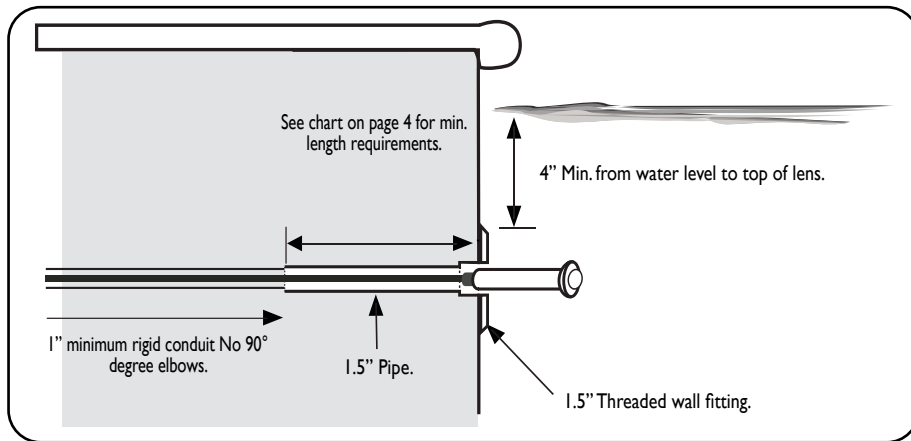

Figure 2: Standard VÜ Nicheless Light installation with 1.5" pool wall fitting.
1. 1.5" pipe must be installed through the bond beam with a minimum length of fourteen (14 inches), followed by a one (1) inch conduit with sweeps. DO NOT use 90 degree elbows. It is highly recommended to use 1.5" pipe through out the entire width of the bond beam. (see Figure 2).